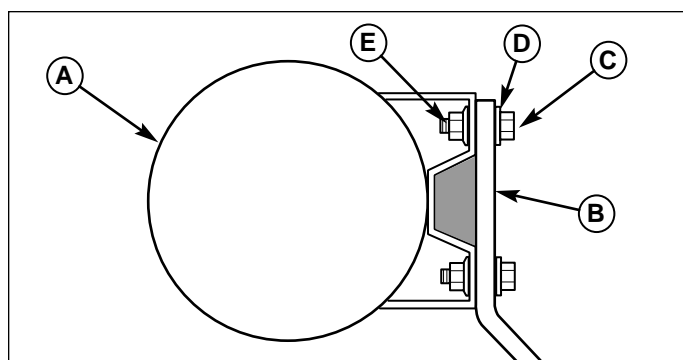

Figure 2. Air Cleaner Support Bracket Installation
3. Using the 5/16 X 3/4" bolts, washers and flange nuts, attach the air cleaner support bracket to the air cleaner (see Figure 2). Make sure the throttle and choke cables are routed through the shaded area in Figure 2.